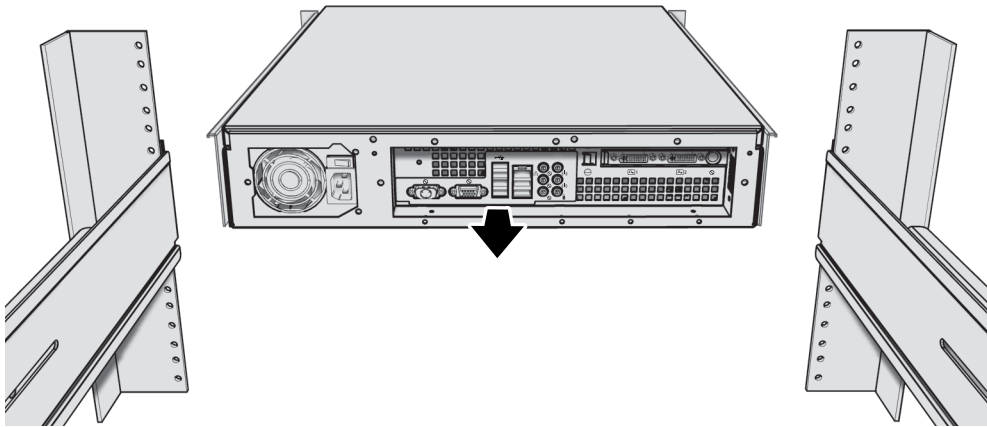

Figure 9. Mounting the Endura Workstation into the Rack
9. Place the unit onto the mount rails by sliding the chassis brackets onto the rails (refer to Figure 9 on page 14). This step may require two people to lift and slide the unit into place. The unit should slide in and out of the rack easily.